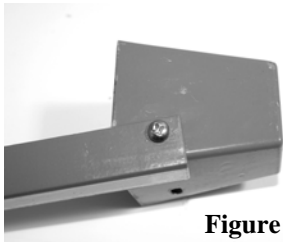

Figure 7
Fasten the four Top Legs (R) on the outside of the Mast Head (A), by aligning the pre-drilled holes in each piece and securing with a Brace Screw (L) and Brace Nut (M). See Figure 7. (NOTE: If you would prefer the Top Legs (R) to fit inside the Mast Head (A), additional holes may be drilled in the Top Legs (R) to allow a snug fit.) Do not tighten the nuts at this stage.